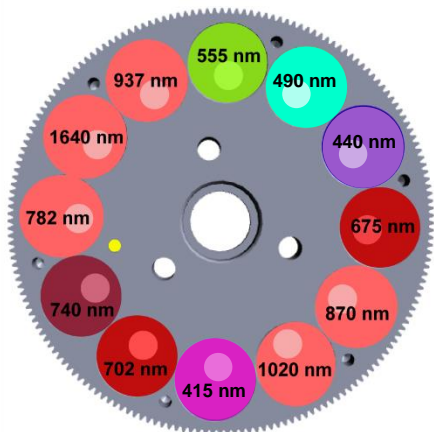

Figure 4 : BRDF 12 filters type
- **BRDF 12 filters:** It is designed for satellite calibration. It uses 415, 440, 490, 555, 675, 702, 740, 782, 870, 937, 1020, 1640 nm filters (Fig.4).